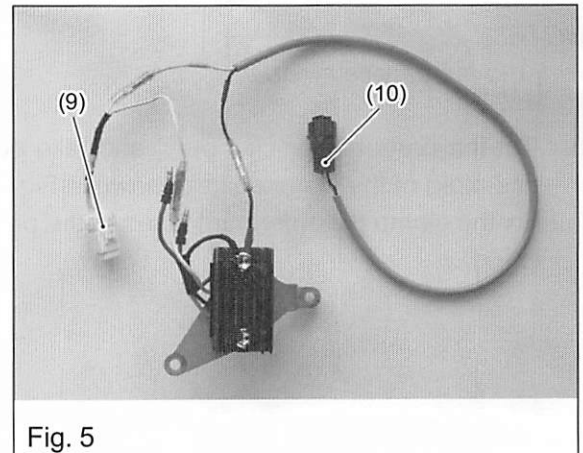

Fig. 5
10. Connect the fuse case assy (9) and the lighting receptacle assy (10) and receptacle GND lead as shown in Fig. 5.